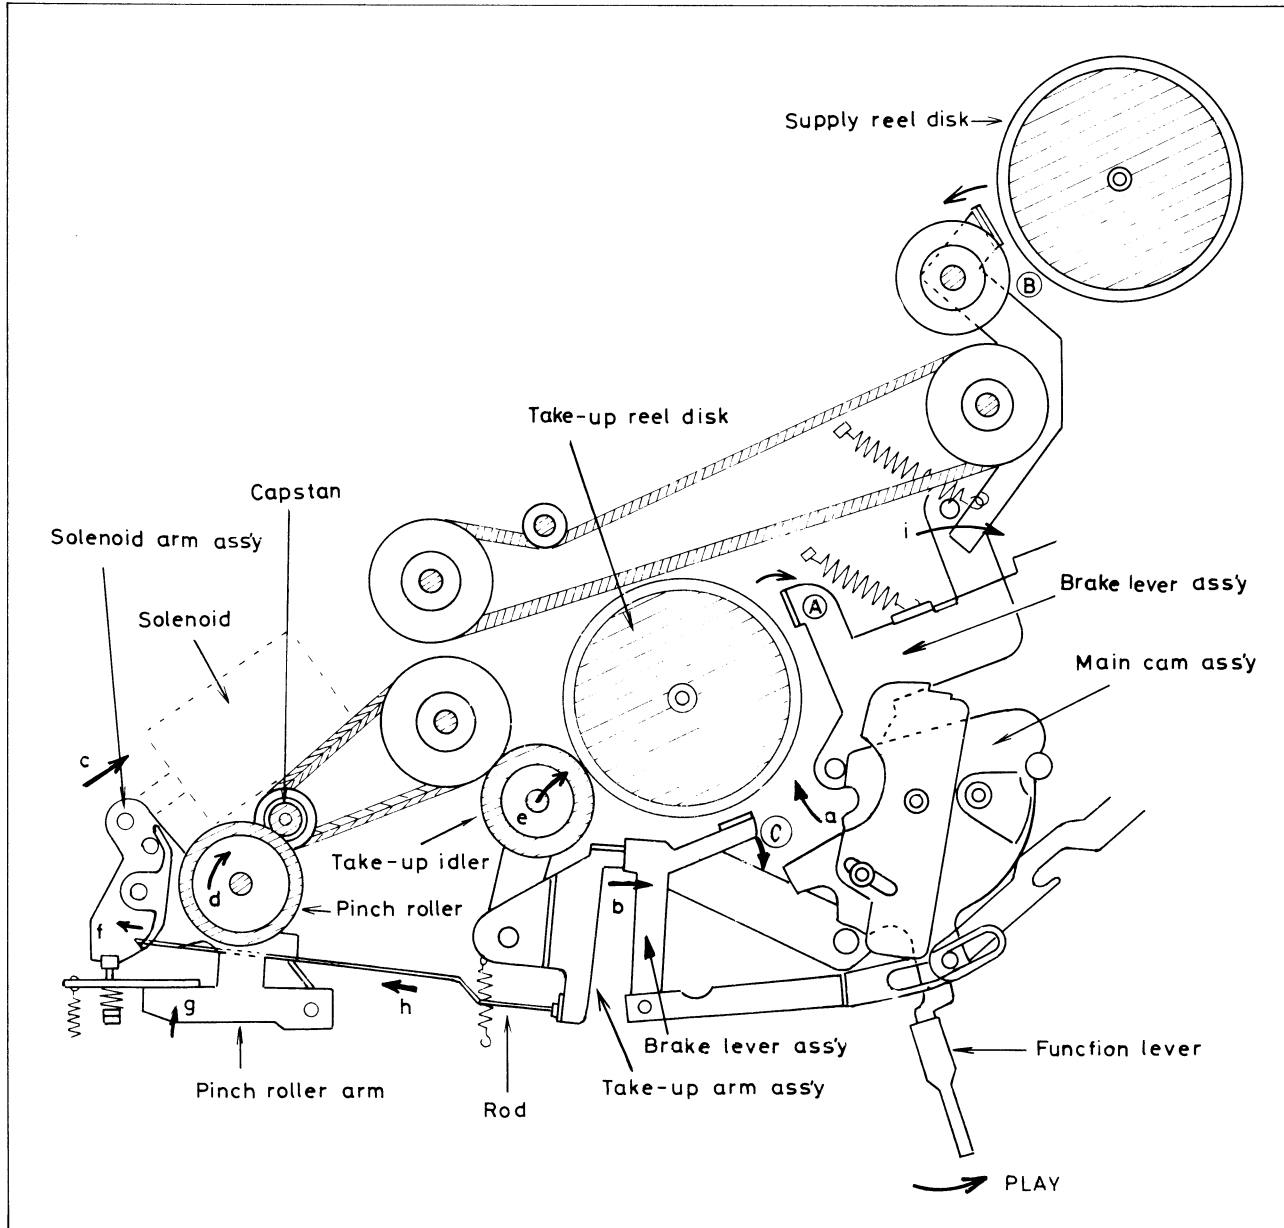

Fig. 3-3. Playback mode mechanism
See Fig. 3-3. Setting the function lever from stop to play rotates the main cam counter-clockwise. The brake lever (take-up) shown at (A) is pushed up by the main cam in the direction indicated by arrow (a), and the brake lever (supply) at (B) is pushed at the same time by the brake lever (take-up) in the direction indicated by the arrow (i). Then, the two brakes release from supply and take-up reel disk.
When the function lever is set to play mode, the main cam assembly is turned to the counter-clockwise position. The play lever assembly is moved to left by the main cam assembly and turns the FF/REW switch on. See Fig. 3-4. When the power is applied to the solenoid through the FF/REW switch, the plunger moves the solenoid arm assembly and pinch roller arm in the directions indicated by arrows (c), (f) and (g) in Fig. 3-3. This causes the pinch roller to press against the capstan.
When function lever is set to the play mode, the pinch roller solenoid is turned on, and the brakes (A) and (B) on the supply and take-up reel disks are released. Refer to Fig. 3-3. At the same time, a rod is pulled to the left as indicated arrow (h) by solenoid arm assembly. The take-up arm assembly is turned clockwise, pushing the take-up idler to take-up reel disk in the direction indicated by arrow (e); and the tab of the take-up arm assembly is pressed against the brake lever assembly in the direction indicated by arrow (b) and the brake (C) is released.